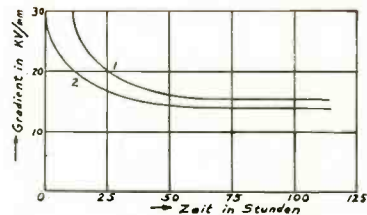

Fig. 3.
Fig. 3, taken from *Elektrotechnik*, Volume 53, February, 1932, page 146, shows in curve (1) the increased life which is obtained in dielectric through the addition of an anti-oxidant, curve (2) showing the life without the anti-oxidant, but still showing a fairly good life characteristic.